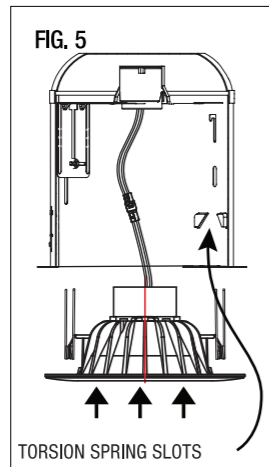

FIG. 5
- Squeeze both Torsion Spring Arms together and insert into the Torsion Spring Slots (or Receiver Brackets) of the housing can. Tuck all wires into the housing can and carefully push the luminaire into the housing can as shown in FIG. 5. NOTE: For shallow housing cans, be sure there is no interference between the socket adapter, the wires, and the luminaire.